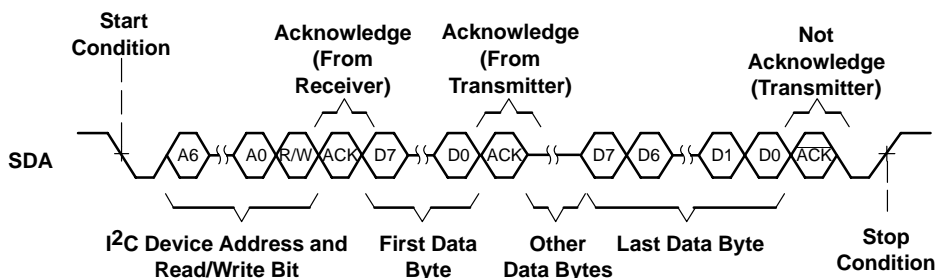

Figure 31. Multiple Byte Read Transfer
During a read cycle, the slave receiver will acknowledge the initial address byte if it decodes the address as its address. Following this initial acknowledge by the slave, the master device becomes a receiver and acknowledges data bytes sent by the slave. When the master has received all of the requested data bytes from the slave, the not acknowledge ( $\bar{A}$ ) condition is initiated by the master by keeping the SDA signal high just before it asserts the stop (P) condition. This sequence terminates a read cycle as shown in Figure 30 and Figure 31.